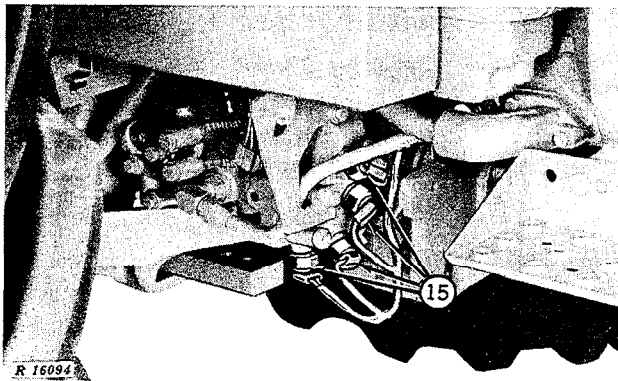

Fig. 11—Power Front Wheel Drive Switches (Power Shift Tractor)
15. On tractors with Power Front Wheel Drive, disconnect wiring harness from switches (Fig. 11).